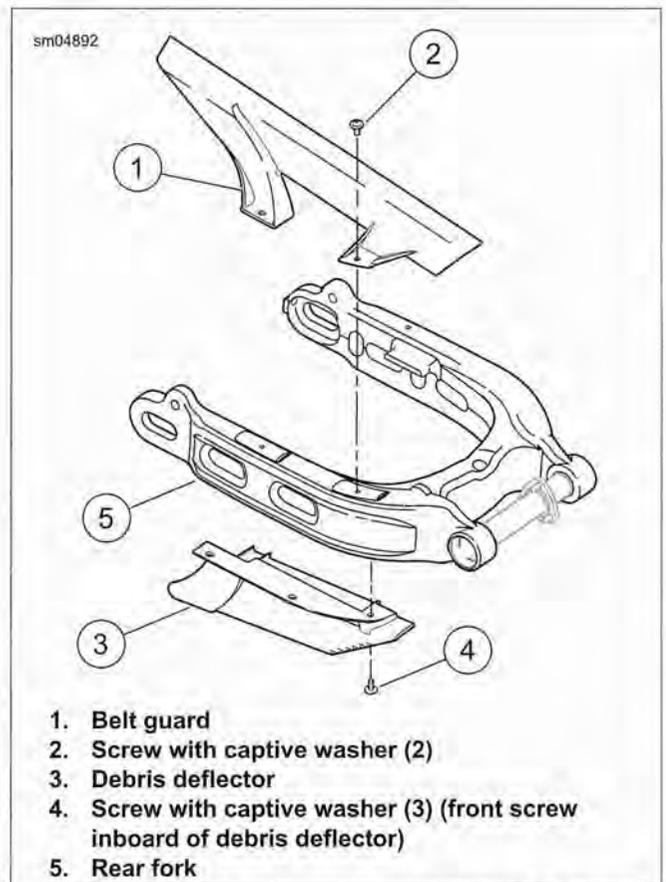

Figure 2-161. Belt Guard/Debris Deflector: XR 1200X
1. See Figure 2-161. Remove two screws with captive washers (2) securing belt guard to top of rear fork (5).
1. See Figure 2-161. Slide belt guard (1) into place on top of rear fork (5).
2. Secure belt guard using two screws with captive washers (2). Tighten to 72-96 **in-lbs** (8.1-10.8 Nm).
1. See Figure 2-161. Remove three screws with captive washers (4) securing debris deflector (3) to underside of rear fork (5). Note that front screw is located inboard of debris deflector.
1. See Figure 2-161. Position debris deflector (3) in place on underside of rear fork (5).
2. Secure with three screws (4). Tighten screws to 72-96 in-lbs (8.1-10.8 Nm).